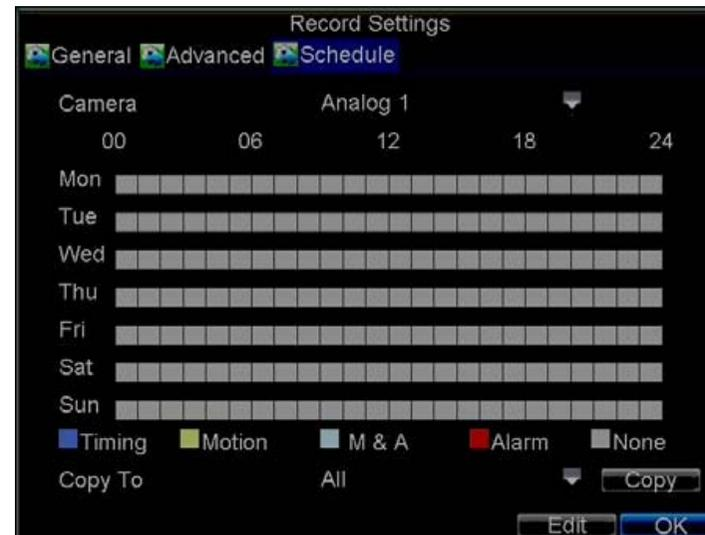

Figure 6.4.
- 2) Select the **Schedule** tab to enter the Schedule dialog box, shown in Figure 6.4.